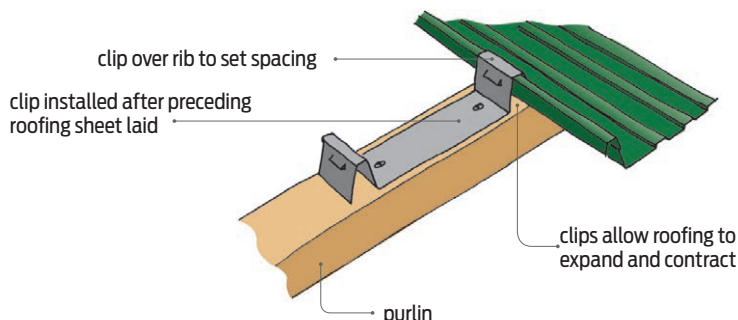

Figure 2. Clips allow thermal expansion and contraction.
- using sliding clips (Figure 2)